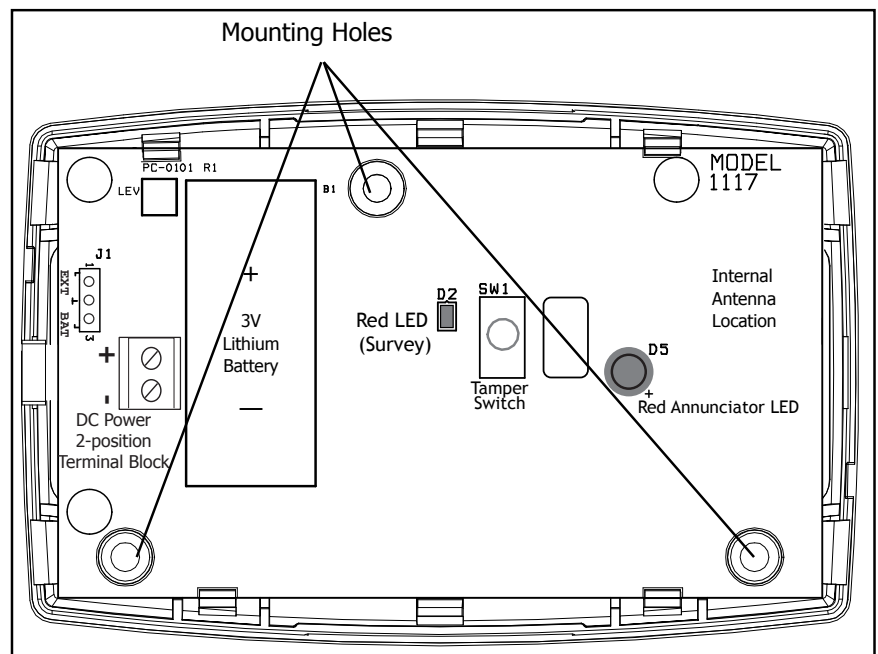

Figure 2: 1117 LED Annunciator PCB
The 1117 provides a survey capability to allow one person to confirm communication with the receiver while the cover is removed. The 1117 PCB Red Survey LED (see Figure 2) turns on whenever data is sent to the receiver then immediately turns off when the receiver acknowledgement is received. Pressing the tamper switch is a convenient way to send data to the receiver to confirm operation. When the 1117 does not receive an acknowledgement from the receiver the survey LED remains on for about 8 seconds to let you know communication is not established. Communication is also faulty when the LED flashes multiple times in quick succession. Relocate the 1117 or receiver until the LED immediately turns off indicating the 1117 and receiver are communicating properly. Proper communication between the 1117 and receiver is verified when for each press or release of the tamper switch, the LED blinks immediately on and immediately off. Repeat this test to confirm five separate consecutive LED blinks. Any indication otherwise means proper communication has not been established.
Mount the 1117 on a flat surface such as a wall or single-gang box. When using the Model 376L plug-in power supply, mount the 1117 near a wall outlet. See Figure 2 for mounting hole locations.
4. Place the 3V Lithium battery in the holder and press into place. See Figure 2 for Battery location.